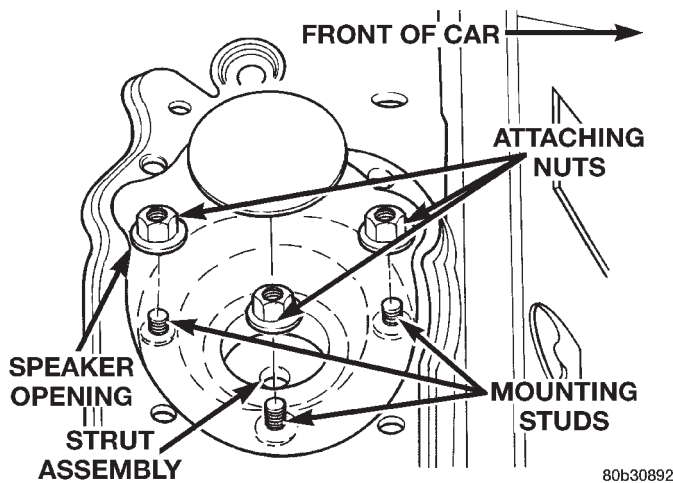
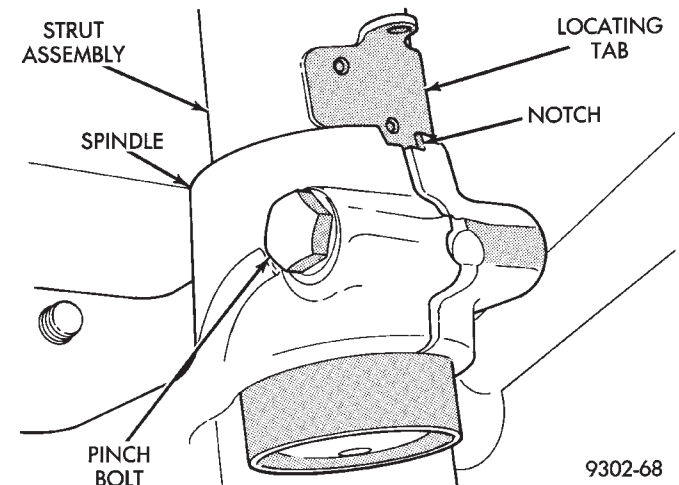

**Fig. 10 Strut Assembly Attaching Nuts**
**Fig. 11 Spindle Attachment To Strut**
(16) Let the rear spindle and assembled components hang from the trailing arm while the strut assembly is out of the vehicle.
(17) Lower vehicle enough to access rear passenger compartment.
(18) Remove the 3 strut assembly to rear strut tower attaching nuts (Fig. 10), then remove strut assembly from vehicle.
(1) Install the nut, washers, and rubber isolators securing the stabilizer bar attaching link to the strut.
(2) Position the strut assembly back in the vehicle with the 3 studs on the strut mount through the holes in the strut tower. Install the 3 strut mount to body attaching nuts onto mounting studs (Fig. 10). Tighten the 3 strut mount attaching nuts to a torque of 25 N·m (19 ft. lbs.).
(3) Raise vehicle back up to working height for reconnecting lower strut.
(4) Install spindle onto bottom of the strut assembly. Push or tap spindle assembly onto lower end of strut, until notch in spindle is tightly seated against locating tab on strut assembly (Fig. 11). Then remove center punch from hole in spindle. Install spindle to strut assembly pinch bolt into spindle (Fig. 11). Tighten spindle to strut assembly pinch bolt to 53 N·m (40 ft. lbs.).